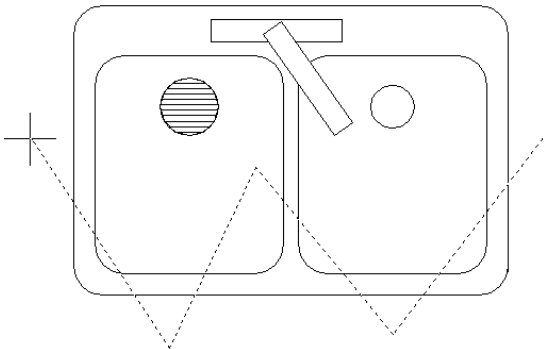
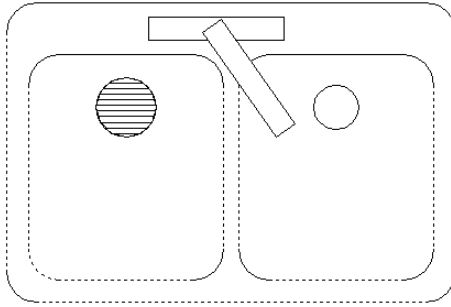

**Figure 9-17:** Using a fence to select objects.
**Figure 9-18:** The selected objects are highlighted.
- ♦ **Fence:** The Fence option enables you to specify a series of temporary lines to select any object crossing the lines. Figure 9-17 shows the process of defining a selection fence. Figure 9-18 shows the result — the selected objects are highlighted.